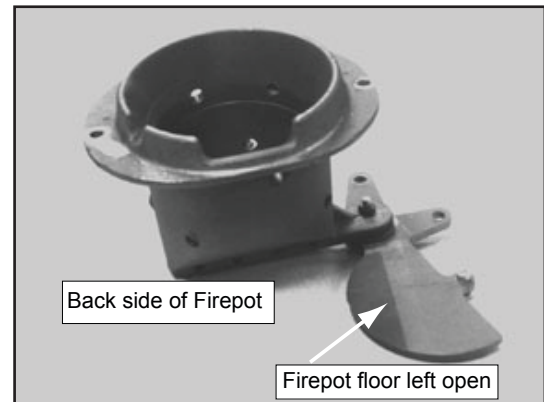

Figure 29.1 - DO NOT LEAVE FIREPOT FLOOR OPEN
- c. The firepot floor plate must be fully closed when finished. **See Figure 29.1 on page 29.**